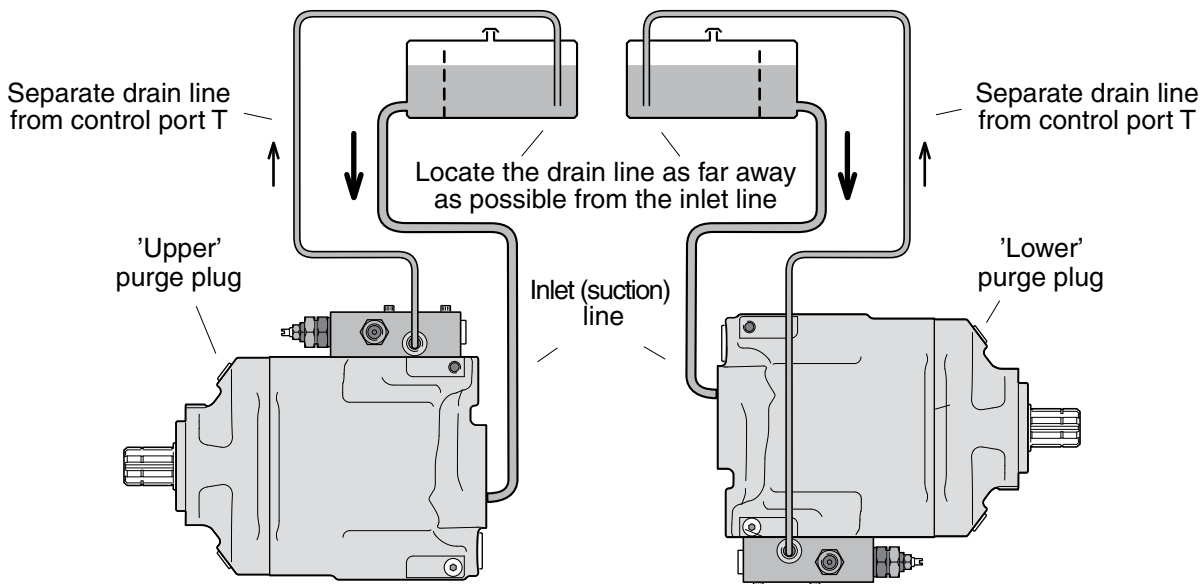

Fig. 6. Purging the VP1-095/-130 (right hand pumps shown)
4. The pump should be installed below the lowest oil level in the reservoir (fig. 6, pg. 4);
5. A separate drain line must be installed between the control drain port T and the reservoir (refer to fig. 6, pg. 4); connect the drain line directly to the oil cooler (if the hydraulic system is so equipped).
- The pump must be filled with fluid and then purged before start-up (fig. 6).
- As previously pointed out, a separate drain line is required between control port T and the reservoir (fig. 6).